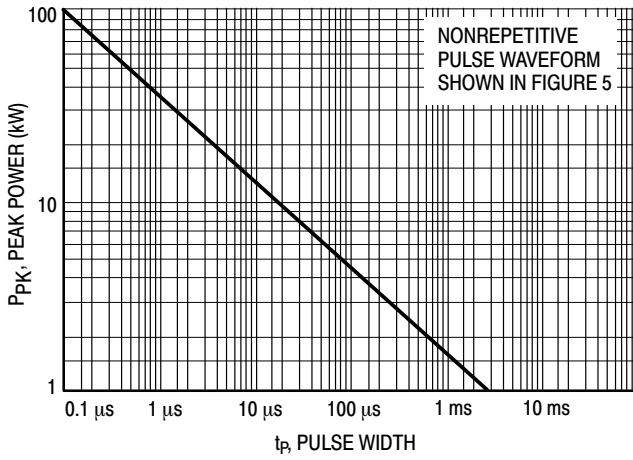
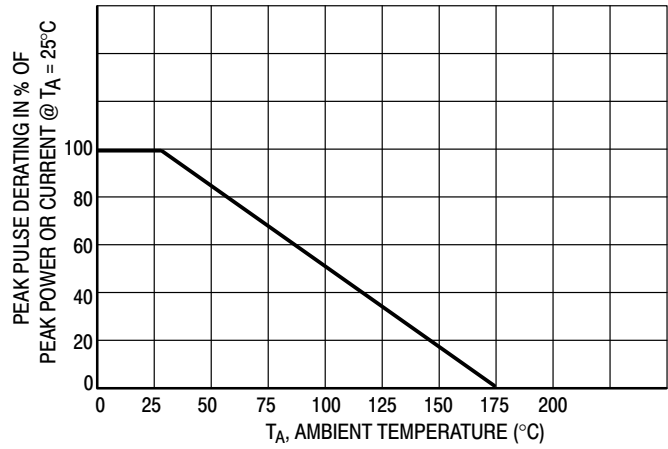
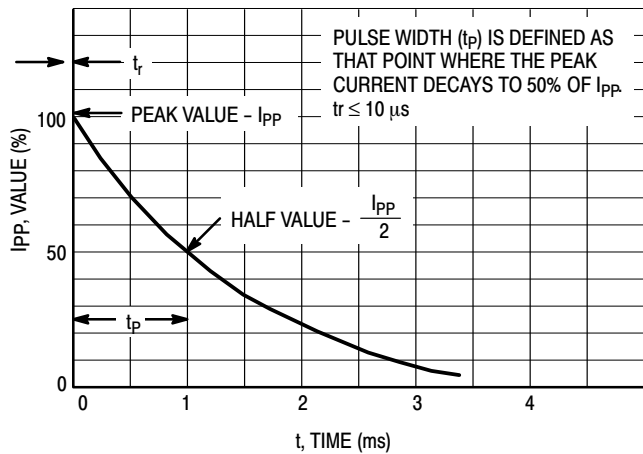
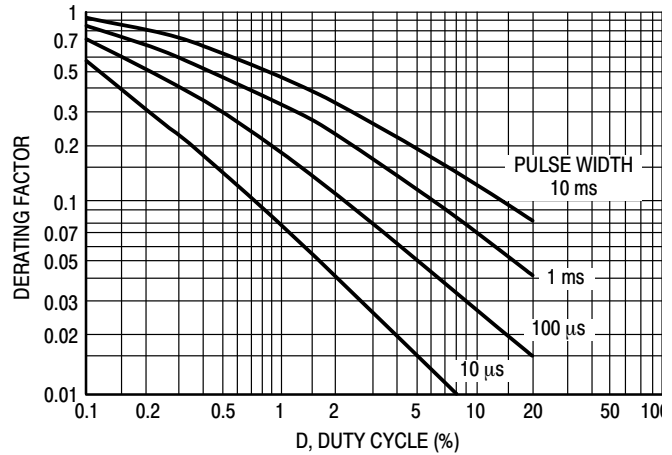

Figure 1. Pulse Rating Curve
Figure 2. Pulse Derating Curve
Figure 5. Pulse Waveform
Figure 7. Typical Derating Factor for Duty Cycle
1. Nonrepetitive current pulse per Figure 5 and derated above  $T_A = 25^\circ\text{C}$  per Figure 2.
7. Surge current waveform per Figure 5 and derate per Figures 1 and 2.
The data of Figure 1 applies for non-repetitive conditions and at a lead temperature of  $25^\circ\text{C}$ . If the duty cycle increases, the peak power must be reduced as indicated by the curves of Figure 7. Average power must be derated as the lead or ambient temperature rises above  $25^\circ\text{C}$ . The average power derating curve normally given on data sheets may be normalized and used for this purpose.
At first glance the derating curves of Figure 7 appear to be in error as the 10 ms pulse has a higher derating factor than the 10  $\mu\text{s}$  pulse. However, when the derating factor for a given pulse of Figure 7 is multiplied by the peak power value of Figure 1 for the same pulse, the results follow the expected trend.